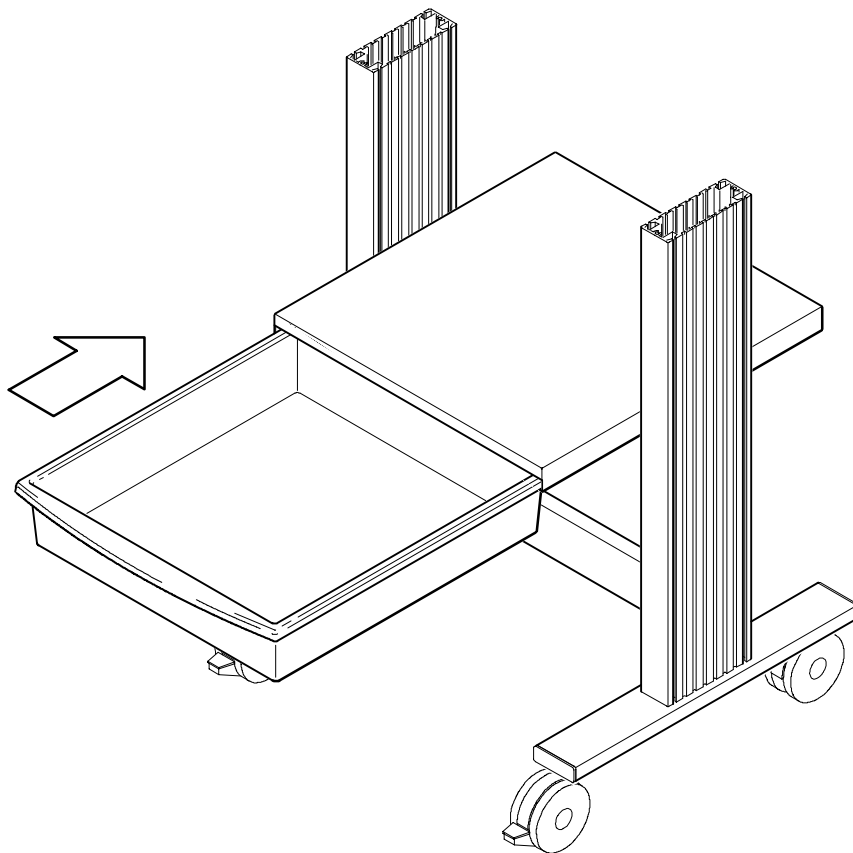

Figure 8: Installing the Drawer
3. Slide the drawer shelf down to into the position shown in Figure 8. (A light pencil line has been marked on the insides of the leg assemblies at this position.) Slide the drawer shelf slowly between the leg assemblies to avoid scratching the paint. Use the circular bubble level to make sure the shelf is level.
5. Slide the drawer in underneath the drawer shelf as shown in Figure 8. Position the drawer so that the curved edge is to the front of the cart. Slide the drawer into the shelf until it stops.